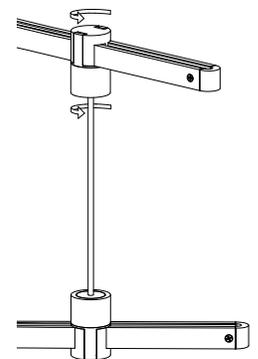

Fig. 11
4. Rotate **Power Bar** to the desired position and secure by fully tightening the **Hanger Sleeve** (Fig. 11).